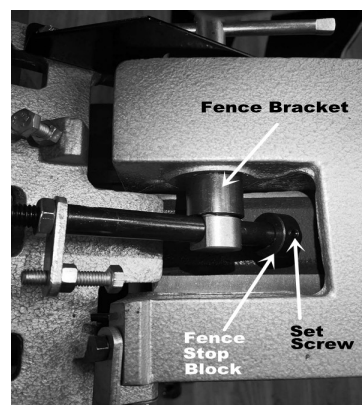

Figure 17
2. Loosen the set screw on fence stop block as shown in Fig. 17